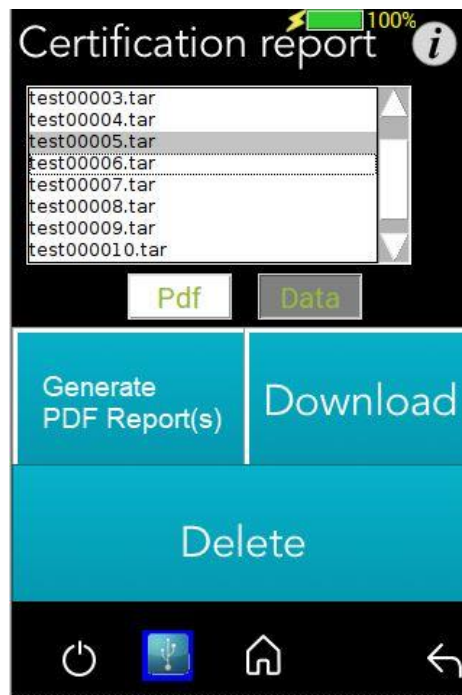

Figure 36: Certification Report Data File Options
4. Insert a USB memory stick into one of the USB ports of the MS-TestPro device. Select a report data file or files from the list as shown in Figure 36, and tap **Download** to save the file to the memory stick. Wait until the following message disappears before removing the USB stick: